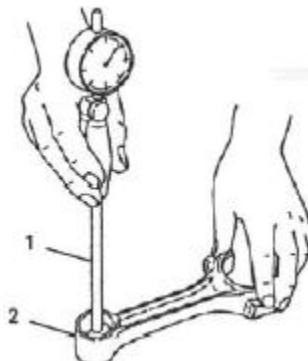

Figure 100.
1. Measure the piston pin bushing bore using a bore gauge (Figure 100, Item 1). Replace the bushing if not within specifications. If the bushing has been removed, measure the inside diameter of the connecting rod small end (Figure 100, Item 2). See *Connecting Rod Mechanical Specifications Chart*.